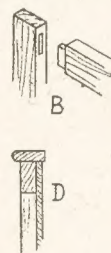

Fig. 3—Details of joints
to be 1 in. longer than the proper length, and then to saw off the surplus after the joints are glued up. There is no danger then of splitting the wood at the ends. The vertical intermediate bars are also tenoned in, but in this case the tenons need not be deeper than  $\frac{1}{2}$  in., as at (C) Fig. 3.
Trim off the edges of the plywood to make them quite level with the top of the frames. Now prepare a few feet of wood to a section of  $\frac{1}{2}$  in. by  $1\frac{1}{2}$  in. and nail this to cover the top edges of both frames and plywood, all round, as in detail (D) Fig. 3. The outer edges of these pieces could be curved a little, and the meeting ends at the front made a neat fit to mitre together.